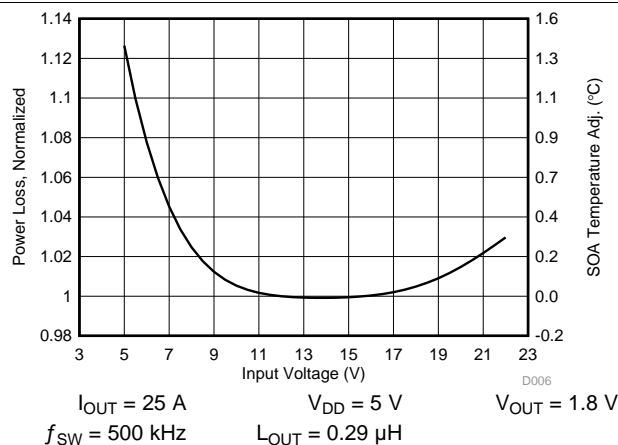

Figure 9. Normalized Power Loss vs Input Voltage
- Normalized Power Loss for input voltage ≈ 1.04 (Figure 9)
- SOA adjustment for input voltage $\approx 0.42^{\circ}\text{C}$ (Figure 9)